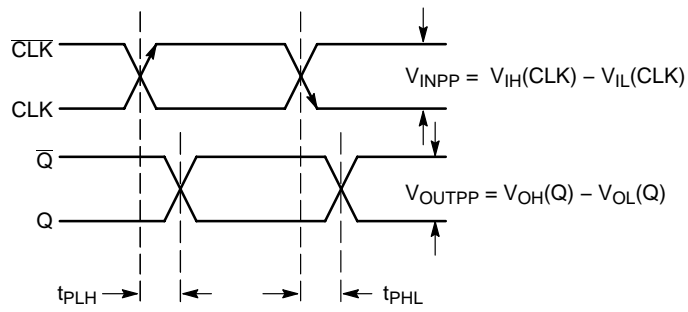

Figure 5. AC Reference Measurement
23. See Figure 5. $t_{SKEW} = |t_{PLH} - t_{PHL}|$ for a nominal 50% Differential Clock Input Waveform.
28. See Figure 5. $t_{\text{SKEW}} = |t_{\text{PLH}} - t_{\text{PHL}}|$ for a nominal 50% Differential Clock Input Waveform.